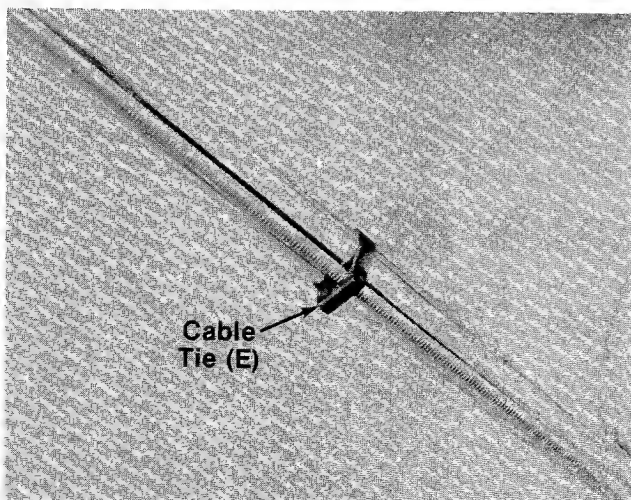

FIGURE 6.
6. Secure throttle control wire to upper and lower handles with cable ties (E). See figure 6.